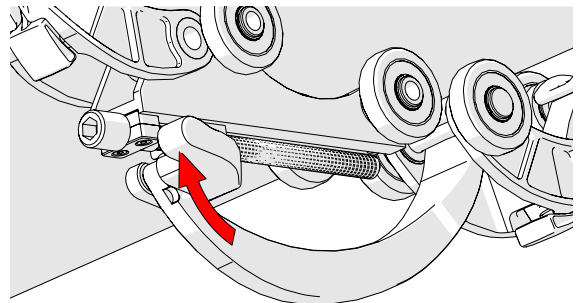

Fig. 169 - Press lever down to lock
12. Rotate the buckle adjustment knob until the buckle's lever can be pushed down locking the QuickLink buckle in place (Fig. 169).